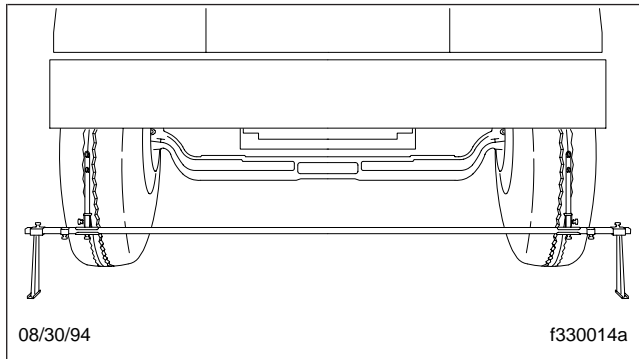
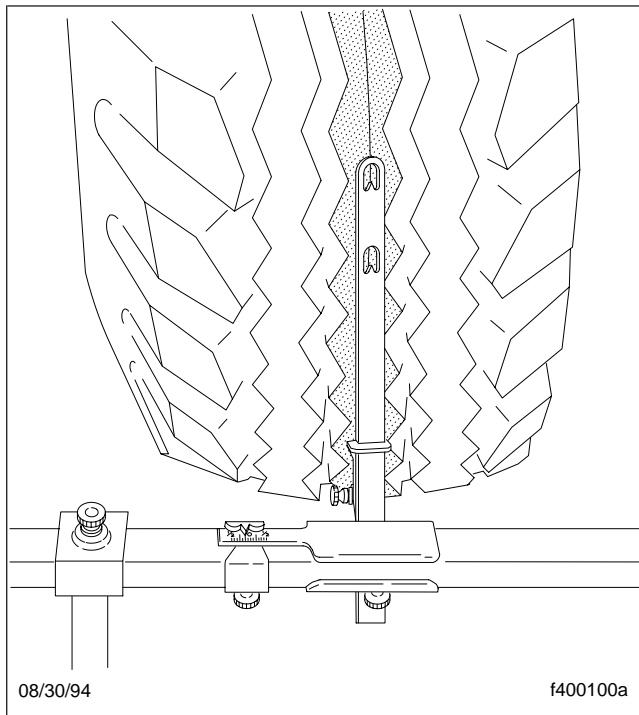

Fig. 5, Trammel Bar Positioning
Fig. 6, Setting the Trammel Bar Pointers
7. Move the trammel bar to the front of the tires (see **Fig. 5**), and adjust the scale end so that the pointers line up with the scribe lines. See **Fig. 6**.